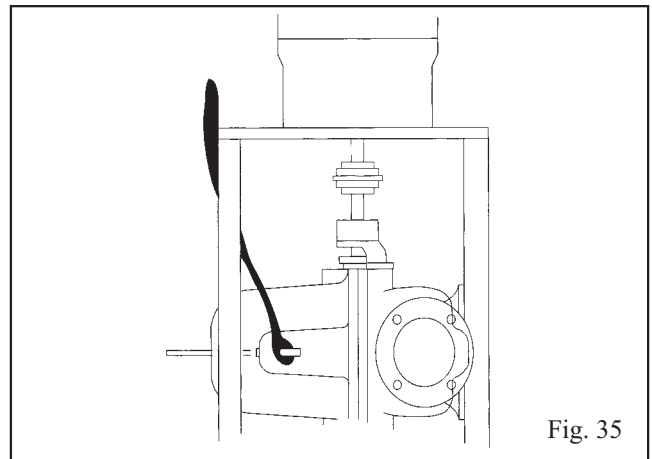

Fig. 35
5. Sling around casing upper half ears using nylon sling, pulling slings taut so it is not possible for slings to slip off (See Fig. 35).